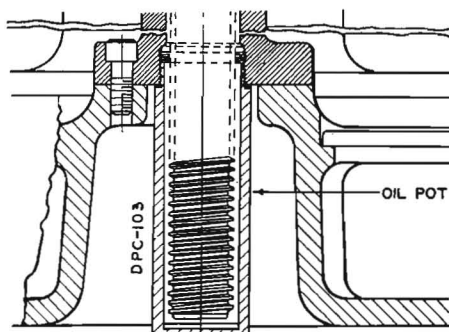

FIGURE 16
3. Remove two one-half inch hollow head cap screws that fasten vertical screw base nut to base of column. See Figure 16.
Vertical screw is lubricated by running knee all the way down. The vertical screw then displaces the lubricant in oil pot causing level to rise and lubricate threads of screw. See Figure 16. While vertical screw is removed from machine, it would be well to inspect, and refill oil pot if necessary. Proper lubricant for this is: seven parts heavy unfiltered oil (Vacuum Oil 600-W or Standard Oil 650-W) to one part Sturaco extreme pressure base, 250 seconds Saybolt at 200 degrees F. (Stuart Oil Co.) Fill oil pot to within  $\frac{1}{4}$  inch of its top.